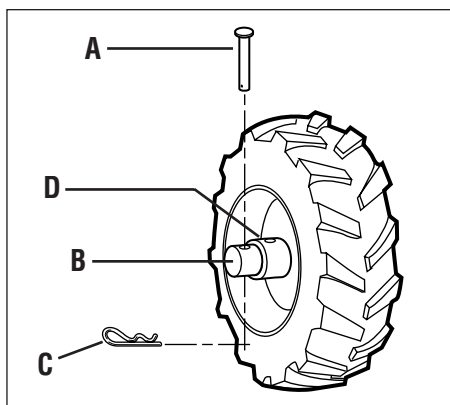

Figure 3-3: FREEWHEEL position.
**5. FOR FREEWHEEL mode (Figure 3-3):** Slide the wheel inward and insert the wheel drive pin (A, Figure 3-3) only through the hole in the wheel shaft (B). Secure the wheel drive pin with the hairpin cotter (C) by pushing the hairpin cotter in as far as it will go. Repeat for the other wheel and then remove the support from beneath the transmission.